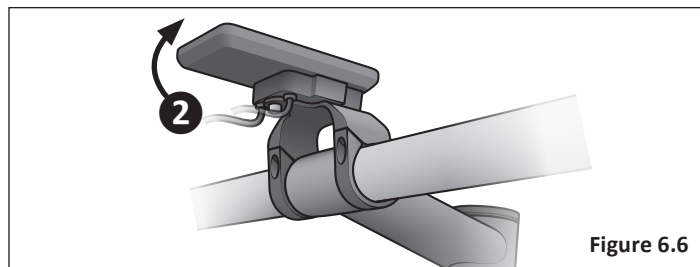

Figure 6.6
- 2 Adjust the angle of the display so it can be easily viewed while riding. **Figure 6.6**